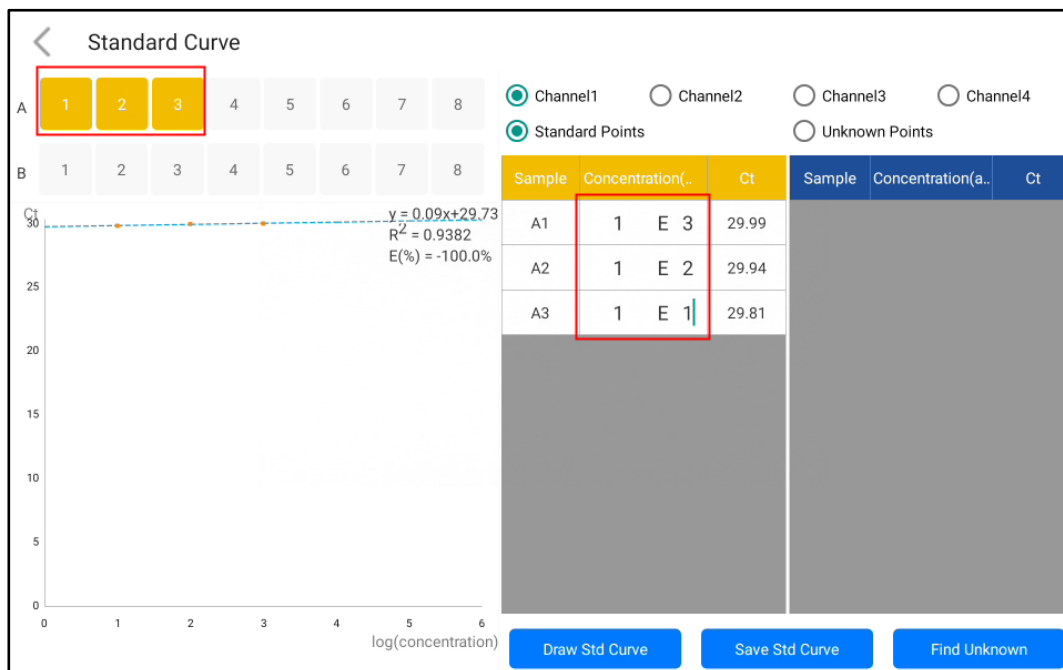

Figure 4-5-4 Standard curve interface
- a. Click the Standard Curve button in the data interface to enter the standard curve interface (as shown in Figure 4-5-4).